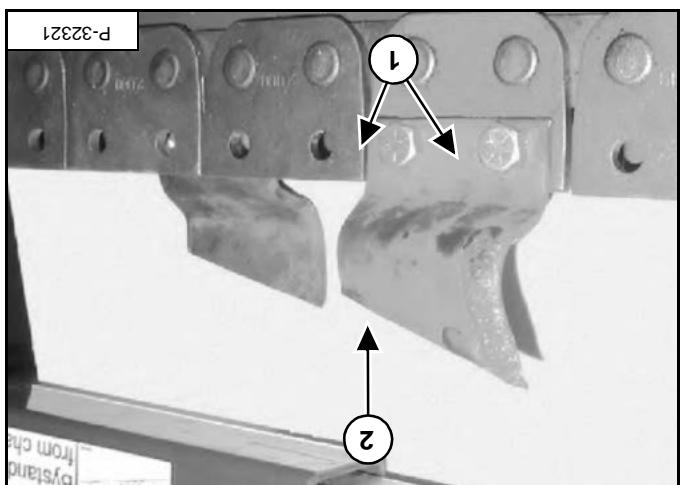

Figure PM-26
Remove the two bolts (item 1) and tooth (item 2) [Figure PM-26].